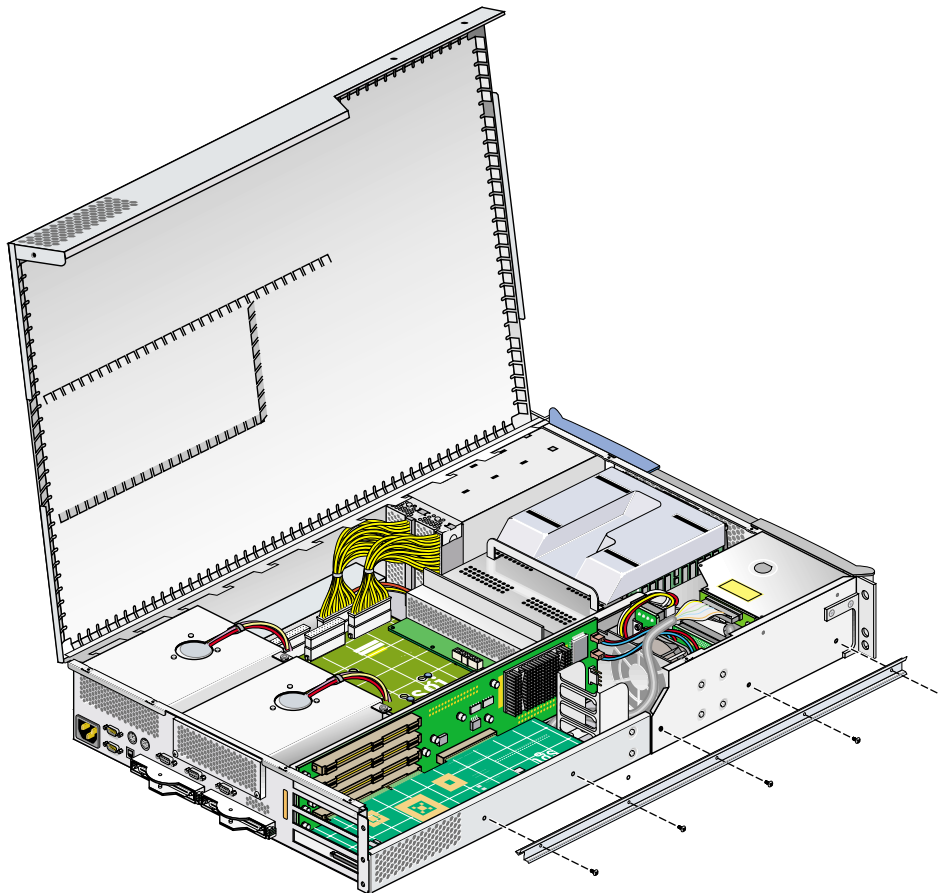

Figure 6-16 Replacing the Chassis Rail
13. Replace the chassis rail, by screwing the five Phillips screws, as shown in Figure 6-16.